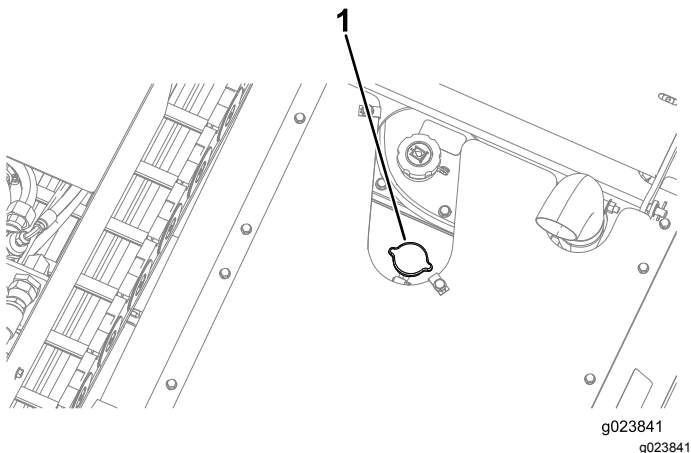

Figure 115
3. Remove the radiator cap (Figure 115).
5. Install the radiator filler cap, ensuring that it is tightly sealed (Figure 115).